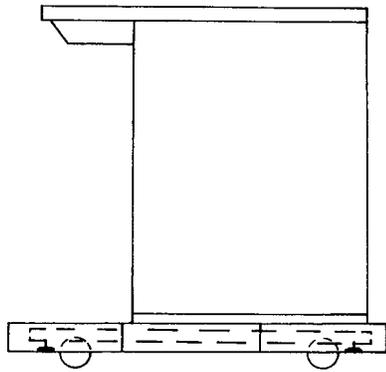

Figure 2 - Carrier Set for Buffer
3.01 A TP333457 carrier set is available to aid in moving the buffer set. The carrier (Figure 2) consists of a pair of wheeled dollies designed to accept the legs of the set. A TP333869 lifting lever (Figure 3) can be used to raise the set onto the carrier. Be sure that the lever projection engages the handle in the cabinet leg before lifting the set.